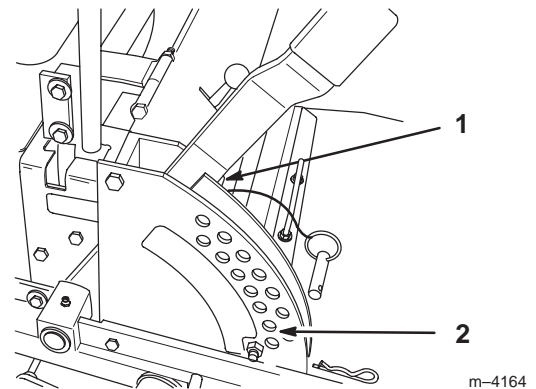

Figure 57
2. Check tire pressure of all four (4) tires. If needed, adjust to 13 psi (90 kPa)
4. Raise the deck to the transport position and take all force off of the two large deck lift springs by loosening nut in front of each spring (Fig. 57).
5. Place two 1-1/2 in. (38 mm) thick blocks under rear left and right lower edge of mower. Place one 2-1/4 in. (57 mm) block under front center lower edge of mower. Lower mower to the 2 in. (51 mm) height-of-cut position (Fig. 57).
1. Raise deck lift lever to the transport position, (Fig. 57).